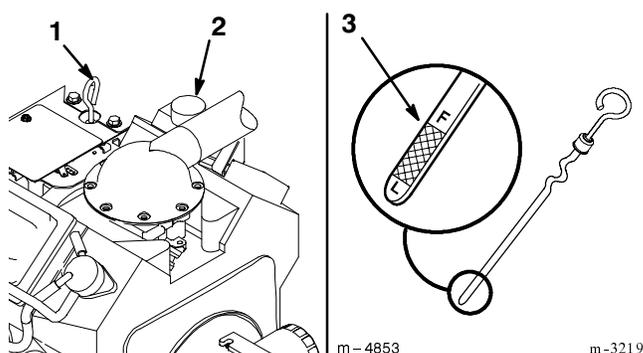

Figure 57
2. Clean around the oil dipstick (Fig. 57) so dirt cannot fall into the filler hole and damage the engine.
3. Pull the oil dipstick and wipe the metal end clean (Fig. 57).
4. Slide the oil dipstick fully into the filler tube (Fig. 57). Pull the dipstick out and look at the metal end. If oil level is low, slowly pour only enough oil into the filler tube to raise the level to the “FULL” mark.
5. Slowly pour approximately 80% of the specified oil, on page 43, into the fill opening (Fig. 57). Now check the oil level; refer to Checking Oil Level, page 43. Slowly add additional oil to bring to "FULL" mark on dipstick.